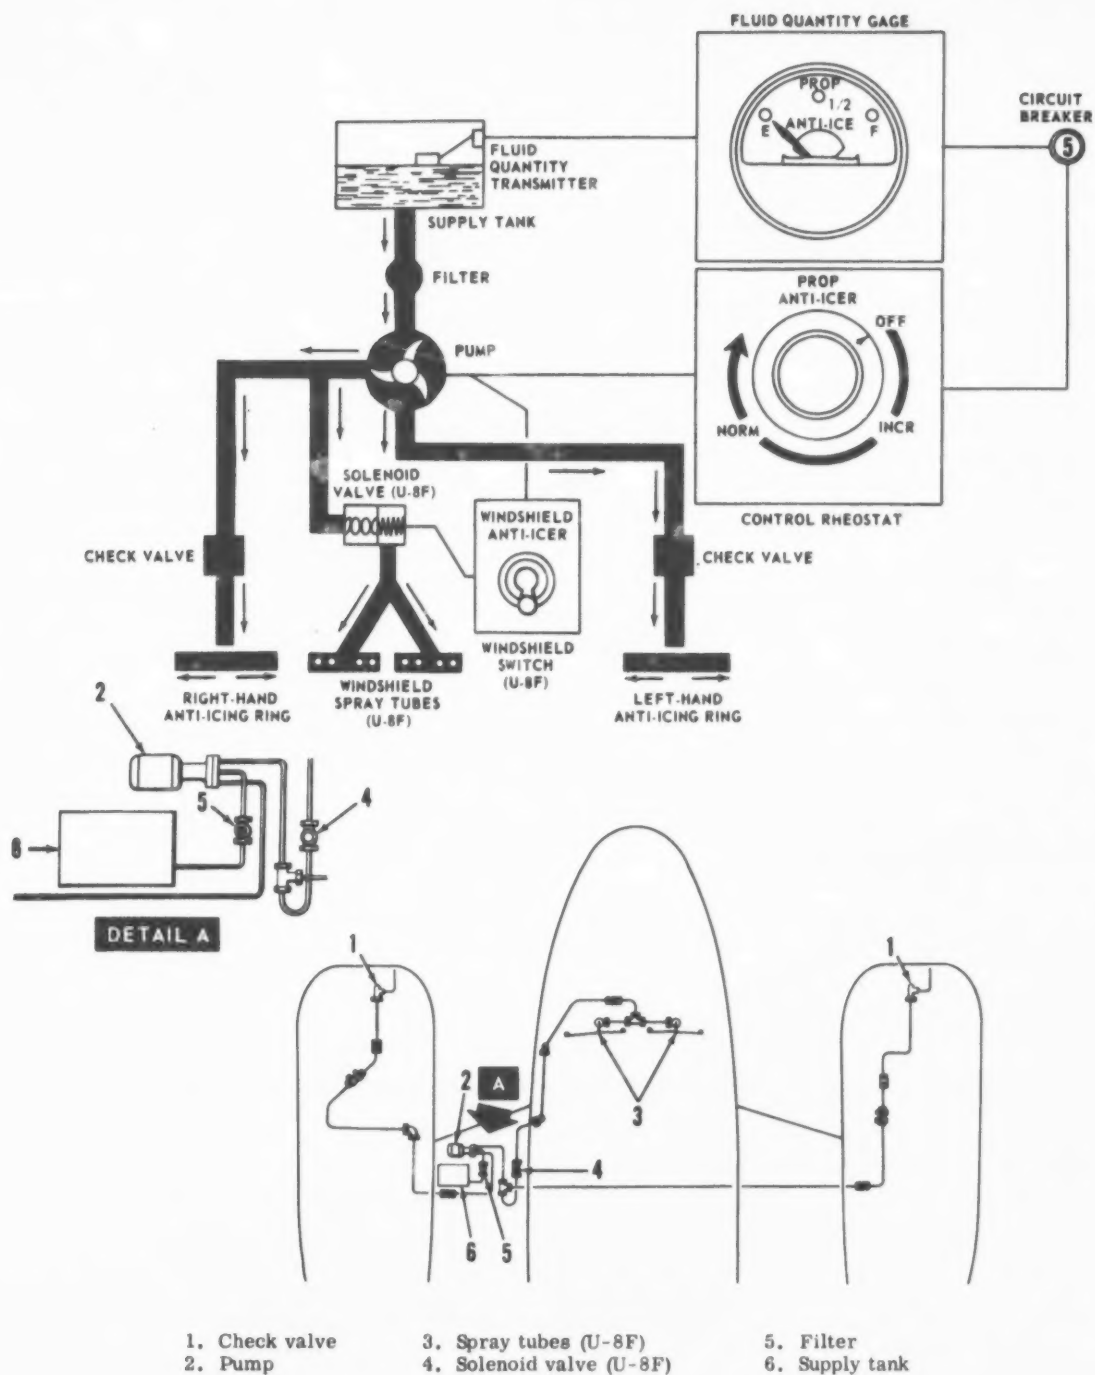

Figure 11-14. Anti-icing system
11-68. The anti-icing system (figure 11-14) supplies anti-icing fluid to the propeller blades to reduce ice accumulation on the blades during flights through icing conditions. The system consists of a supply tank, filter, check valves, solenoid valve, pump, fluid quantity transmitter, fluid quantity gage, circuit breaker, control rheostat, anti-icing rings, and anti-icing feed shoes. In addition to propeller anti-icing, U-8F aircraft incorporate windshield anti-icing. Refer
11-69. SUPPLY TANK. The anti-icing supply tank (5, figure 11-14) is located in the left-hand wing between the fuselage and nacelle, just forward of the main spar. It is a 3-gallon, aluminum tank. Rubber insulated metal straps secure the tank to the tank support cradles. A fluid quantity transmitter assembly is installed in the tank to operate the fluid quantity gage.
a. Removal. (1) Open leading edge access door from beneath left-hand wing.
(2) Drain anti-icing fluid from system by removing cap from tee fitting on bottom side of supply tank (6, figure 11-14).
(3) Remove tube assembly from tee fitting on supply tank.
(4) Disconnect bonding jumper from wing.
(5) Disconnect ground wire to scupper.
(6) Remove hoses attaching scupper drain tube and vent tube to supply tank.
(7) Cut lock wire on thumb screws of support straps, loosen thumb screws, and unroll straps. Pull tank straps clear and lower supply tank enough to disconnect electrical lead attached to supply tank fluid quantity transmitter. Remove supply tank.
b. Cleaning. (1) Clean exterior of supply tank with a clean cloth dampened with dry cleaning solvent (item 6, table 1-8).
d. Repair or replacement. (1) Replace rubber chafe strips if torn or badly worn.
(2) Replace defective supply tank.
e. Installation. (1) Place supply tank (6, figure 11-14) in position.
(2) Connect electrical lead to fuel quantity transmitter.
(3) Connect ground wire to scupper drain tube.
(4) Attach scupper drain tube and vent tube to supply tank.
(5) Hold supply tank up snug against cradle, with filler neck on outboard side. Pull straps around tank and insert ends of straps through thumb screws.
(6) Roll strap ends under. When straps are tight enough around tank, tighten thumb screws and secure with lock wire.
(7) Attach bonding jumper to wing.
(8) Connect tube assembly to tee fitting.
(9) Install drain cap on tee fitting beneath supply tank and refill tank. (Refer to paragraph 1-150).
(10) Close leading edge access door.
11-70. FILTER. The anti-icing filter (4, figure 11-14) is located in the line between the supply tank and pump. It is constructed with a machined, aluminum alloy bowl and cap, synthetic rubber and cork gasket, and a filter element.
(2) Disconnect tube assemblies from filter (5, figure 11-14). Cap all open fittings.
(3) Loosen retaining clamp and remove filter.
b. Cleaning. (1) Clean filter with dry cleaning solvent (item 6, table 1-8).
d. Repair or replacement. (1) Replace dirty or damaged filter elements.
(2) Replace damaged gaskets.
e. Installation. (1) Install filter (5, figure 11-14) in retaining clamp with the side stamped OUT, facing forward.
(2) Remove caps and connect tube assemblies to filter.